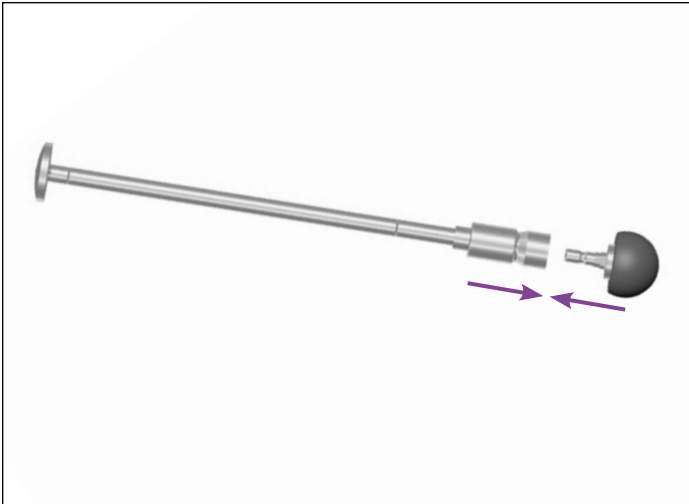

Figure 18
3. Select the appropriately sized Plastic Insert Impactor Tip and load onto Insert Positioner/Impactor Handle (Figure 18).